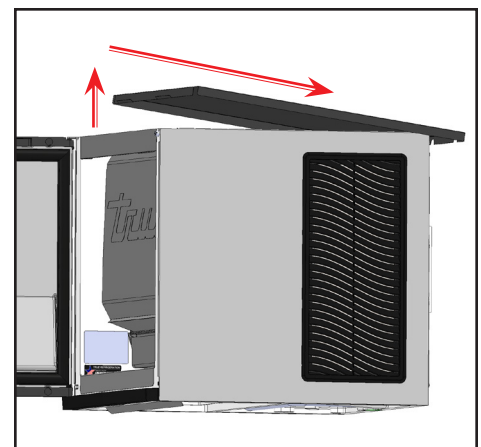

Fig. 2. Lift the front edge, slide the top panel back, and then lift the panel.
3. Remove the top panel. See fig. 2.